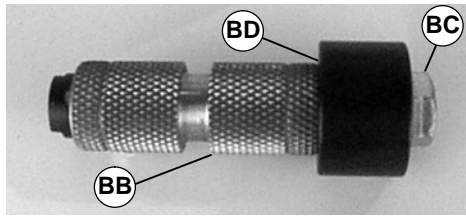

Figure 38
- Assemble pulley (BB of Figure 38), removal tool (part # 25-09☆) (BD), and bolt (part # 906-278☆) (BC), as shown
- Tighten bolt (BC) to remove bearing sleeve (BA)